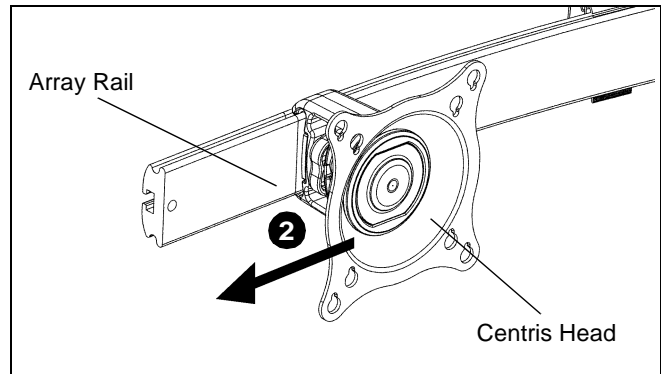

Figure 11
2. Slide Centris head off array rail. (See Figure 11)